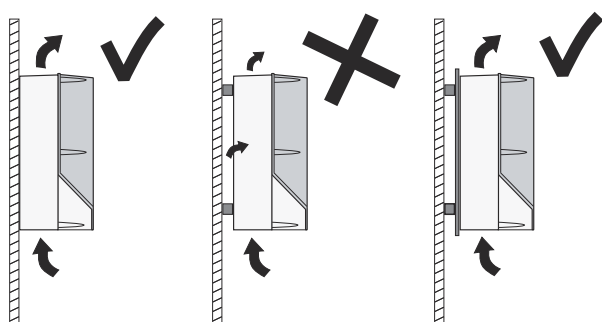

Fig. 2 CUE hung directly on the wall or fitted with a back plate
- Hang the CUE cabinet directly on the wall, or fit it with a back plate. See fig. 2.